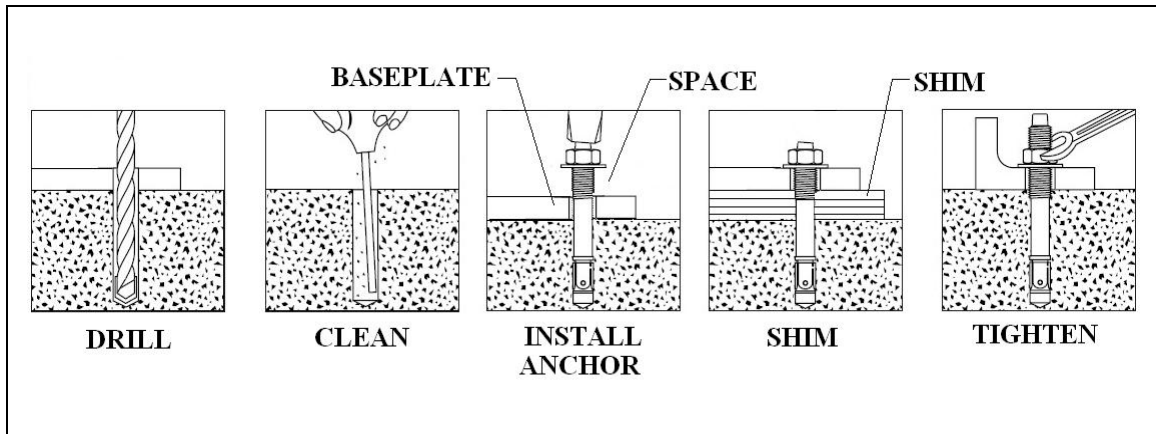

Figure 9. Anchor installation
1. Refer to Figure 9 while reading through these instructions.